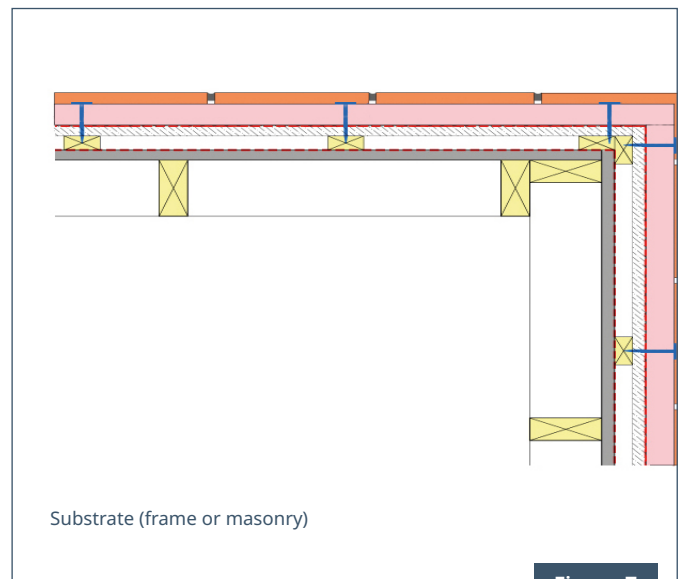

Figure 7
1. Panels must overlap and be sealed with tape or adhesive to prevent the creation of a void in the area behind brick. See Figure 7.